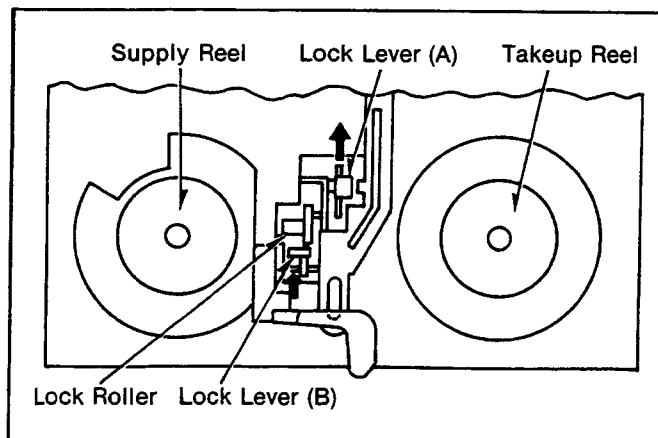

Fig. 17 Cassette Down Condition Without Cassette Tape
- (2) After this adjustment is finished, return the Lock Lever (B) to Eject position as described below.
- (3) How to return Eject position.
Pull up the Lock Roller, while Pressing the Lock Lever (A) as direction indicated by the arrow shown in Fig. 17.